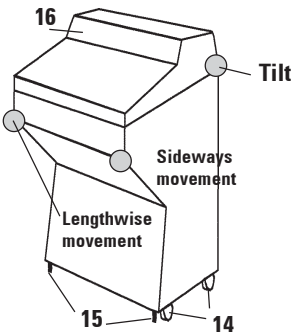

Fig. 4
- Move the instrument to the installation site on its wheels (**14**). Please note the areas which are reinforced for transporting and grip the cabinet only at these locations (Fig. 4).